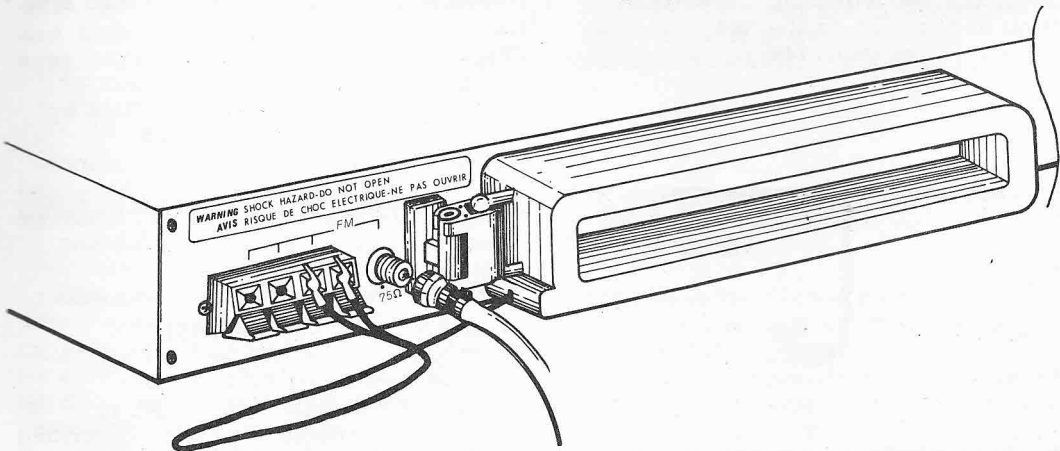

FIG. 3 75 OHM FM ANTENNA/CABLE TV
An antenna with a 75 ohm coaxial lead (recommended because it provides better shielding) is connected to the round 75 ohm terminal (2). Insert the antenna lead into this terminal and twist the cable's outer metal ring to tighten the connection. (See figure 3). If the coaxial lead is two wires without a connector, insert the ground wire into the third terminal from the